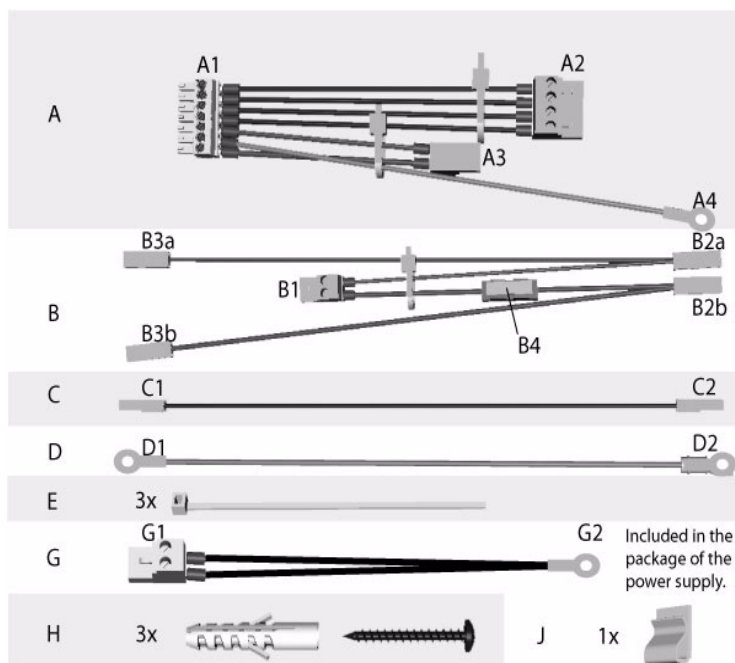

Figure 2 Accessories kit content
3. Stick the bracket **J** (*Figure 2*) on the back of the housing in such a way that later on not used connectors of the cable **B** can be fixed with it.